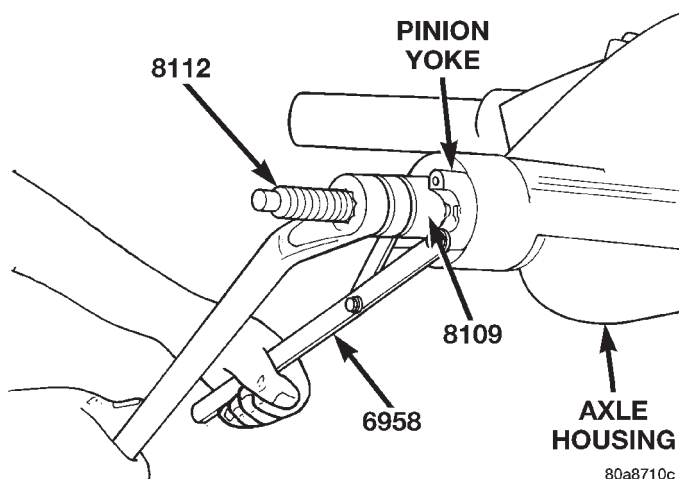

Fig. 51 Pinion Yoke Installation
(11) Install yoke with Installer Screw 8112, Cup 8109, and holder 6958 (Fig. 51).
(12) Install the yoke washer and a new nut on the pinion gear and tighten the pinion nut until there is zero bearing end-play.
(13) Tighten the nut to 271 N·m (200 ft. lbs.).